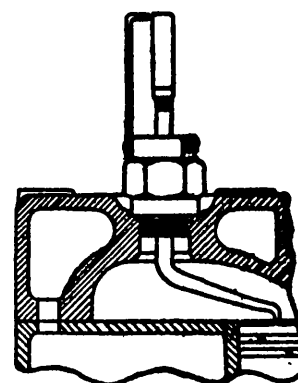

Fig. 6
3. Locate engine top dead center by using the heighth gauge (Figure 6). If rod has been properly set with heighth gauge, a reading of two or three hundred-thousandths, or two or three complete turns of the gauge hand will show on the indicator.